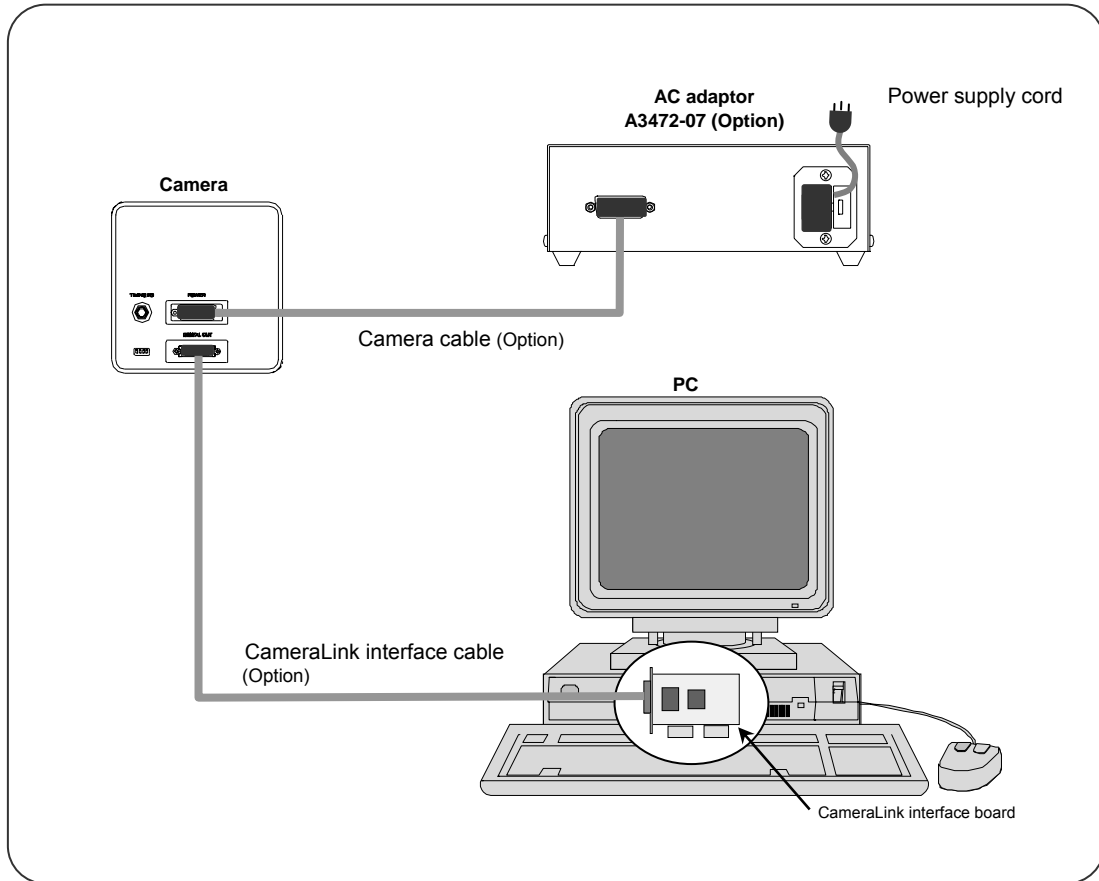

Fig.7-1
- (1) Connect the equipment as shown in Figure 7-1 before operating of the camera.
- (2) Switch the AC adaptor's power switch to ON.
- (3) After turning the power switch on, wait approximately 30 minutes for the temperature to stabilize; this completes preparation for imaging.